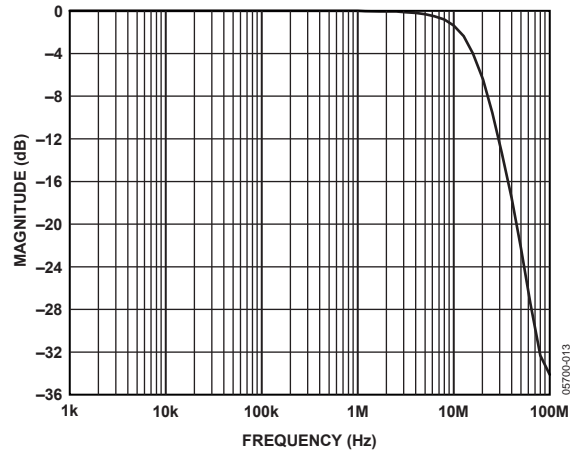
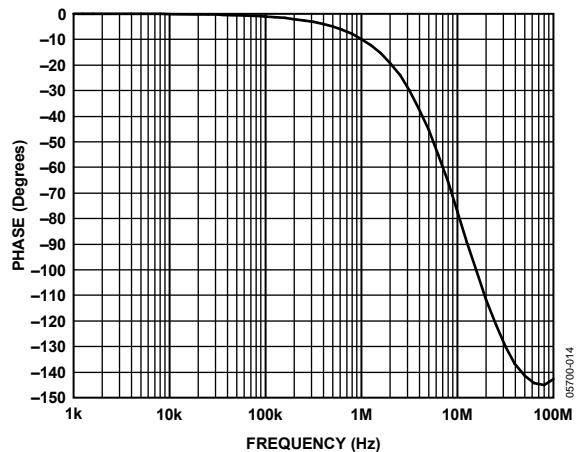

Figure 18. Antialiasing Filter Magnitude Response
Figure 19. Antialiasing Filter Phase Response
The **ADV7180** has optional on-chip antialiasing (AA) filters on each of the three channels that are multiplexed to the ADC (see Figure 17). The filters are designed for standard definition video up to 10 MHz bandwidth. Figure 18 and Figure 19 show the filter magnitude and phase characteristics.